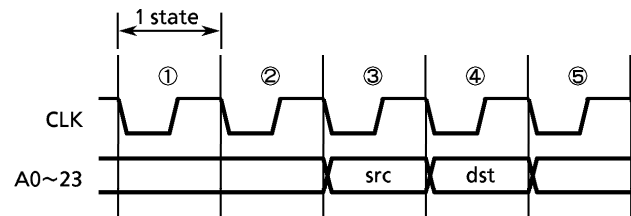

Figure 3.3.2 (1) Micro DMA Cycle Timing
Figure 3.3.2 (1) shows the micro DMA cycle for transfer destination address INC mode (the same apart from counter mode). (Condition: 0 wait built-in RAM in the transfer address area)